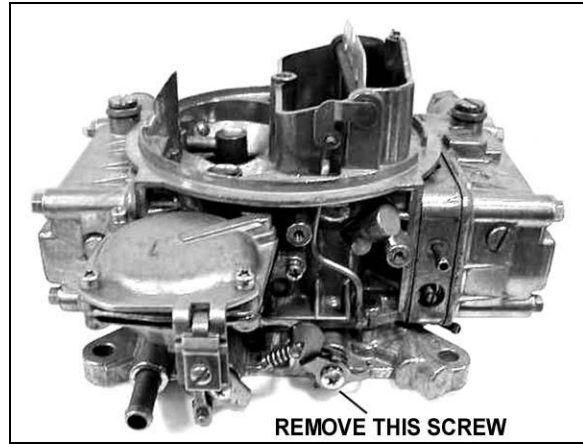

Figure 2
2. Remove the screw holding the fast idle levers (see **Figure 2**). Remove the fast idle levers and spring. Retain the screw for a later time.
3. Check the two (2) counter-bored holes to see if either one is drilled through. Blow compressed air into either of these holes. If air exits from the bottom of the carburetor, plug the hole with the lead ball provided in the kit.